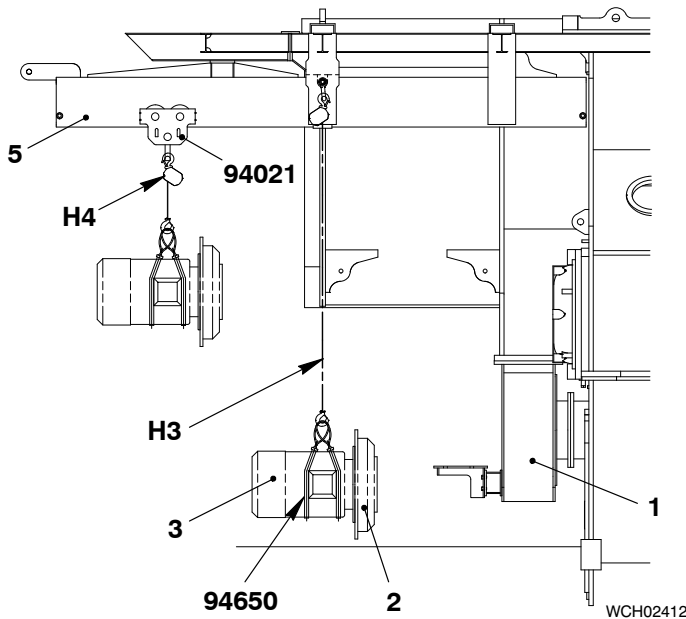

Fig. 4
- 1) Attach the two slings (94650, Fig. 4) to the electric motor (3) and impeller (2).
- 4) Lift the electric motor (3) and impeller (2).
- 5) Move the electric motor (3) and impeller (2) into position.